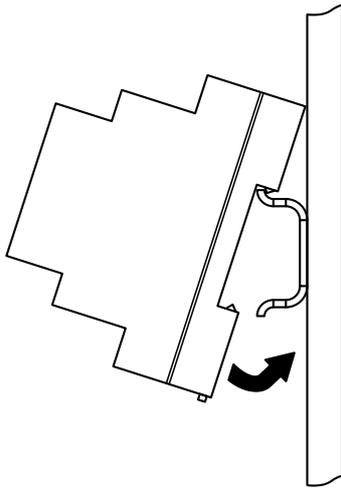
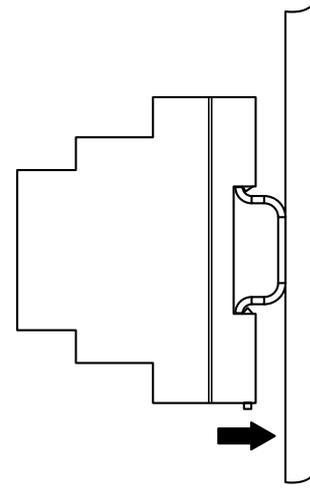
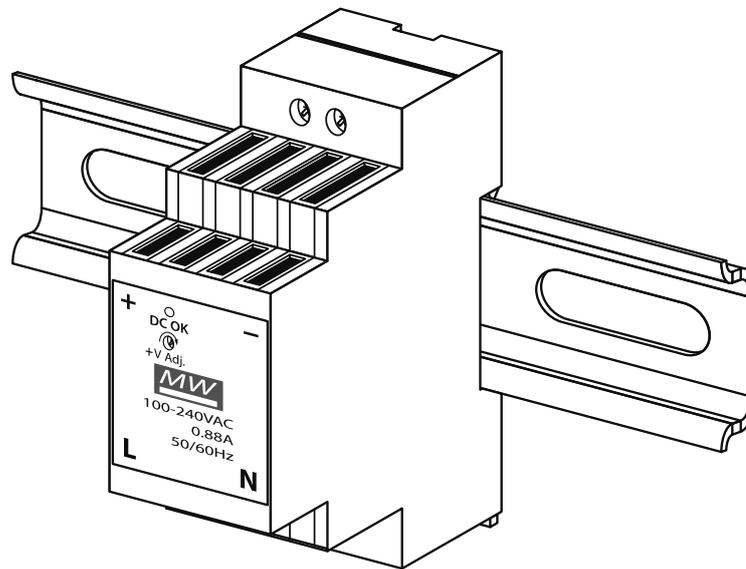

Fig. 31
Fig. 32
Fig. 33
- Fix the power supply to a DIN rail (following **Fig.31**, **Fig.32** and **Fig.33**).